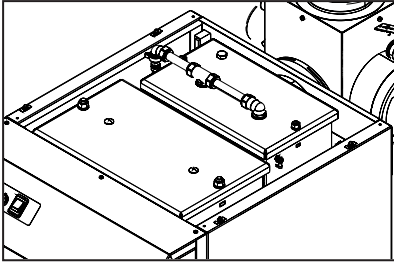

Figure 10-3: Front and rear access covers
- Unscrew and remove the two nuts (and washers) securing the front access cover and remove it from the primary heat exchanger. Figure 10-3.